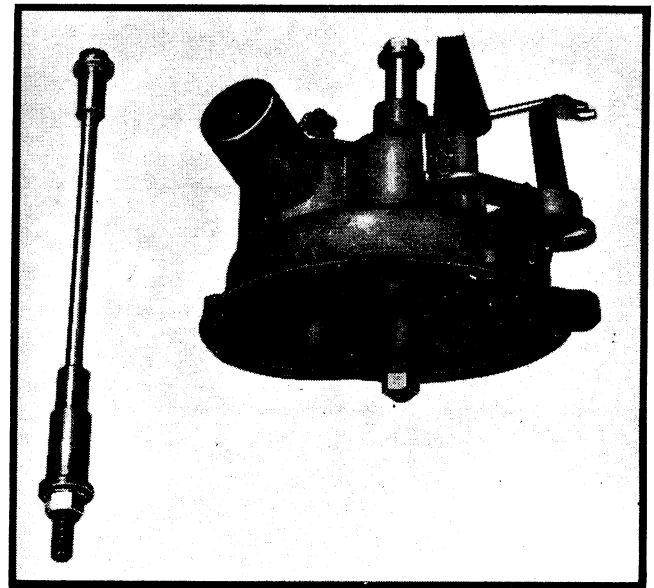

Figure 95
- 3) Use the bearing inserter tool to press the upper and lower bearings into the pump body, *Figure 95*.